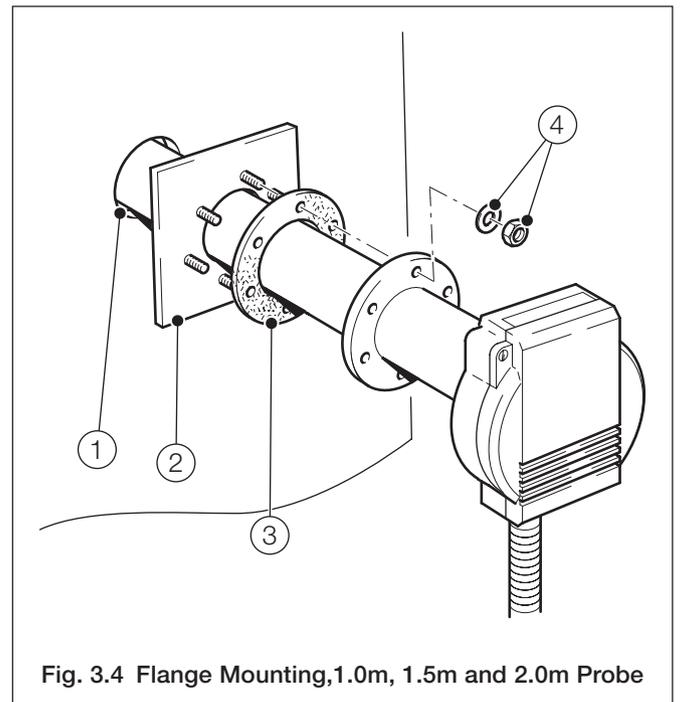

Fig. 3.4 Flange Mounting, 1.0m, 1.5m and 2.0m Probe
3.2.2 1.0m, 1.5m and 2.0m Probes – Fig. 3.4
- ① Cut a 120mm minimum diameter hole in the flue wall.
- ② Either: